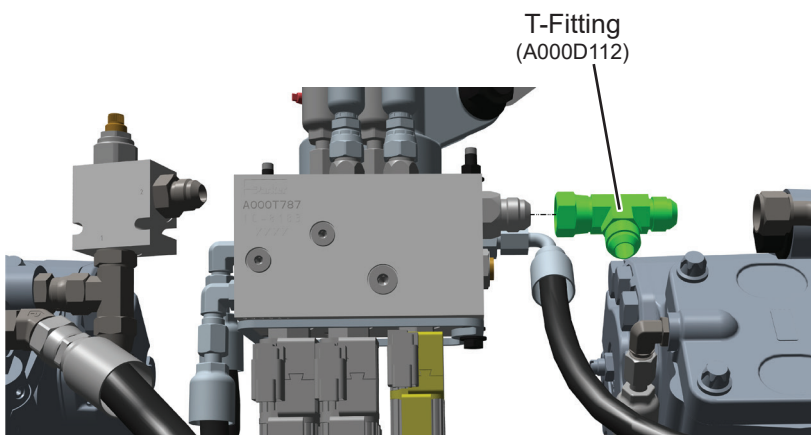

Figure 8. Chute Manifold T-Fitting Installation
10. Install inner T-fitting (A000D112) on check valve installed in Step 9. See Figure 8. Orient T-fitting and final tighten to 58 ft. lbs.